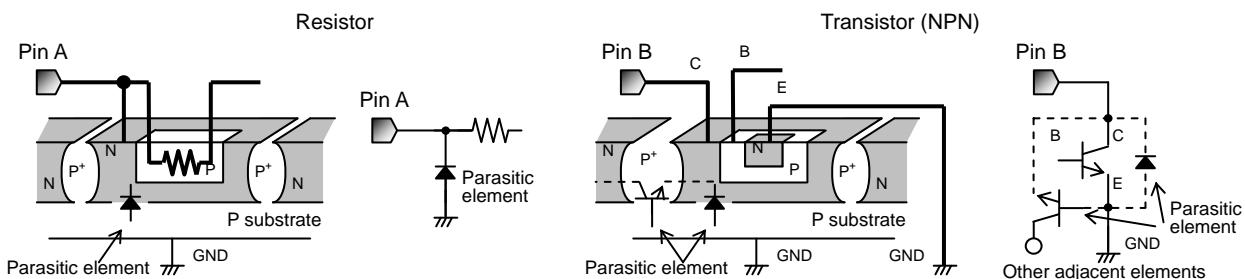

Fig.34
12. Regarding input Pin of the IC (Fig.34)